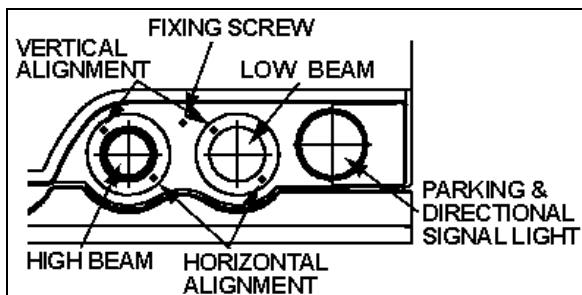

FIGURE 27: HEADLIGHT ASSEMBLY
Headlight aim should be checked after installing a new bulb. Aiming can be performed without opening headlight assembly. Horizontal and vertical aiming of each module is provided by two adjusting screws that pivot the module in the housing for proper alignment (fig. 27). There is no adjustment for focus since the module is set for proper focus during manufacturing assembly.
2. Remove the headlight screw fixing the headlight assembly, then tilt headlight assembly down (Fig. 27 and 29).